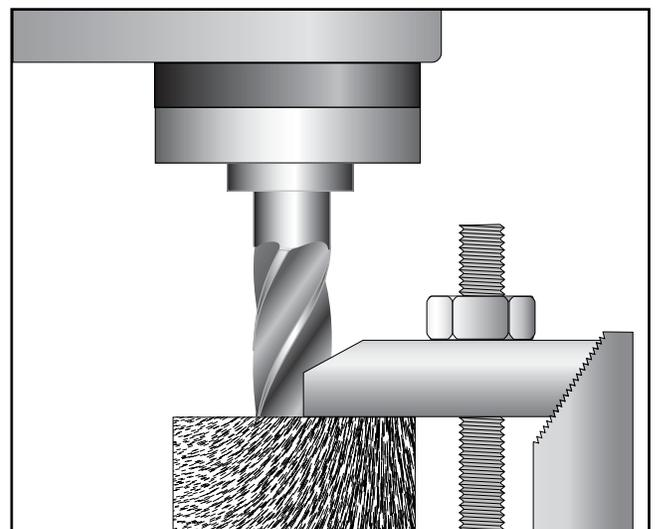

Figure 21. Clamp will interfere with path of cutter.
- Check clearance by moving the table (with the machine unplugged) along the intended path. Obstructions could lead to a "crash" creating an unsafe condition and resulting in serious personal injury. See Figure 21.
- Check clearance by moving the table (with the machine unplugged) along the intended path. Obstructions could lead to a “crash” creating an unsafe condition and result in serious personal injury. See Figure 21.